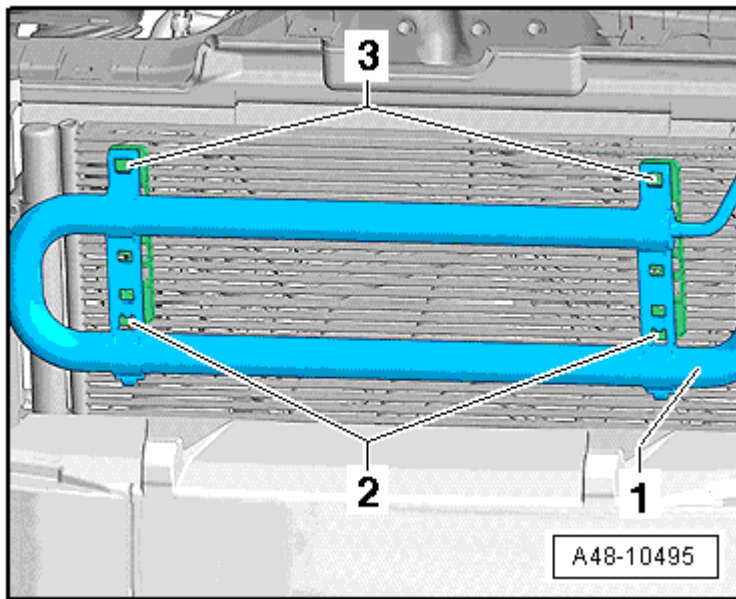

Fig. 33: Hydraulic Oil Cooler To Condenser
4. Hydraulic oil cooler to condenser, refer to **Fig. 33**